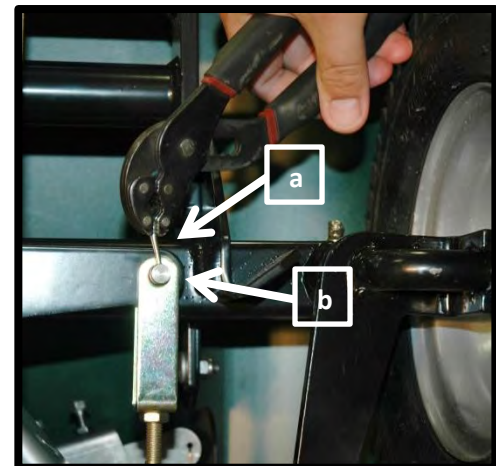
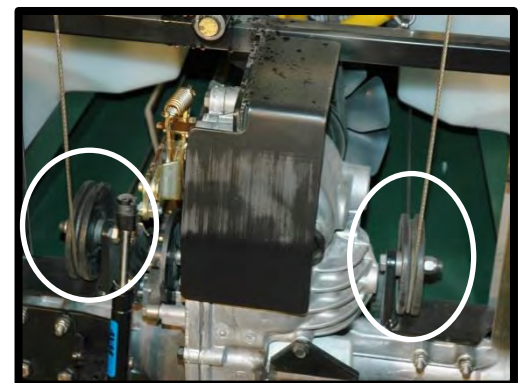

FIGURE 2: Steering Cable Clevis: a) Cotter Pin b) Clevis Pin
FIGURE 3: Steering Cable Pulleys
2. Remove the cotter pin and clevis pin from the steering arm (FIGURE 2) **IMPORTANT! Ensure you keep constant tension on the steering cables to ensure they do not fall off of the pulleys near the rear of the machine (FIGURE 3).**